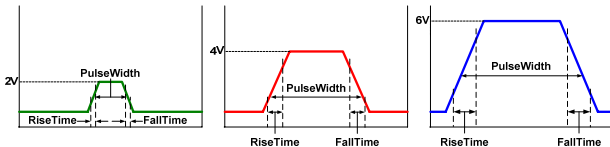

Fig.20 Min. pulse width and max. rise and fall time at different Vih level
Already mentioned above, the real obstacle here is the front end driver of an HSD channel called Pin Electronic (PE). And the concepts of the minimum pulse width and the maximum rise time and fall time at different Vih level are shown in figure20.